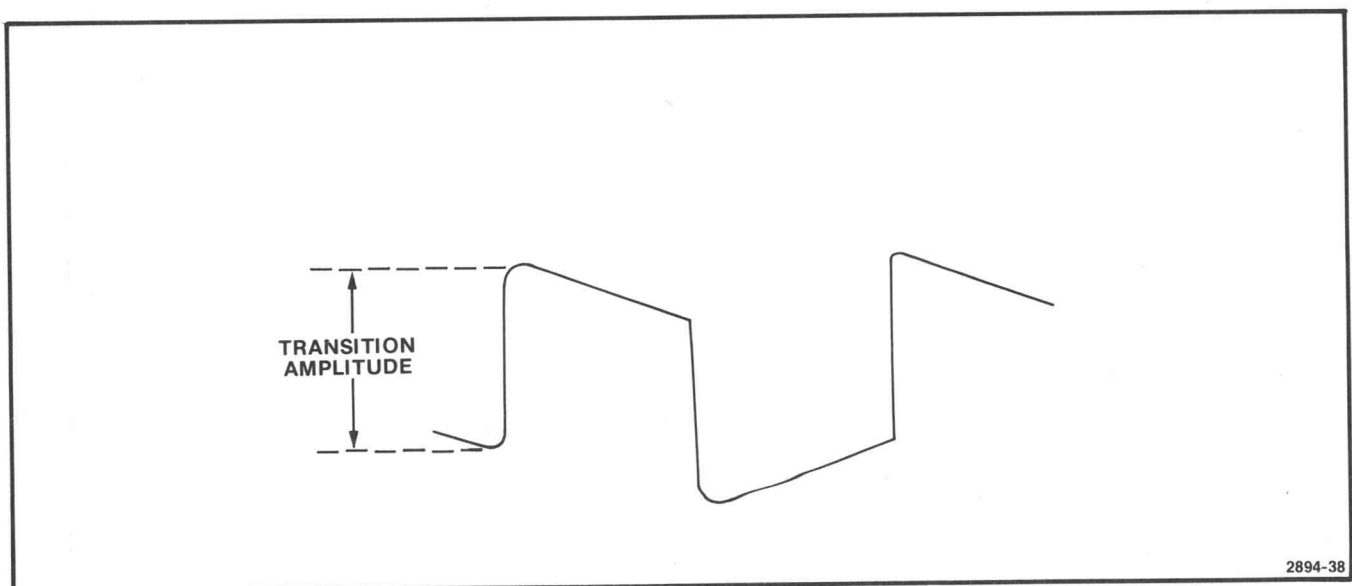

Fig. 4-18. Respiratory effort waveform transition amplitude measurement points.
f. Set test oscilloscope trigger slope to - to obtain waveforms shown in fig. 4-18.